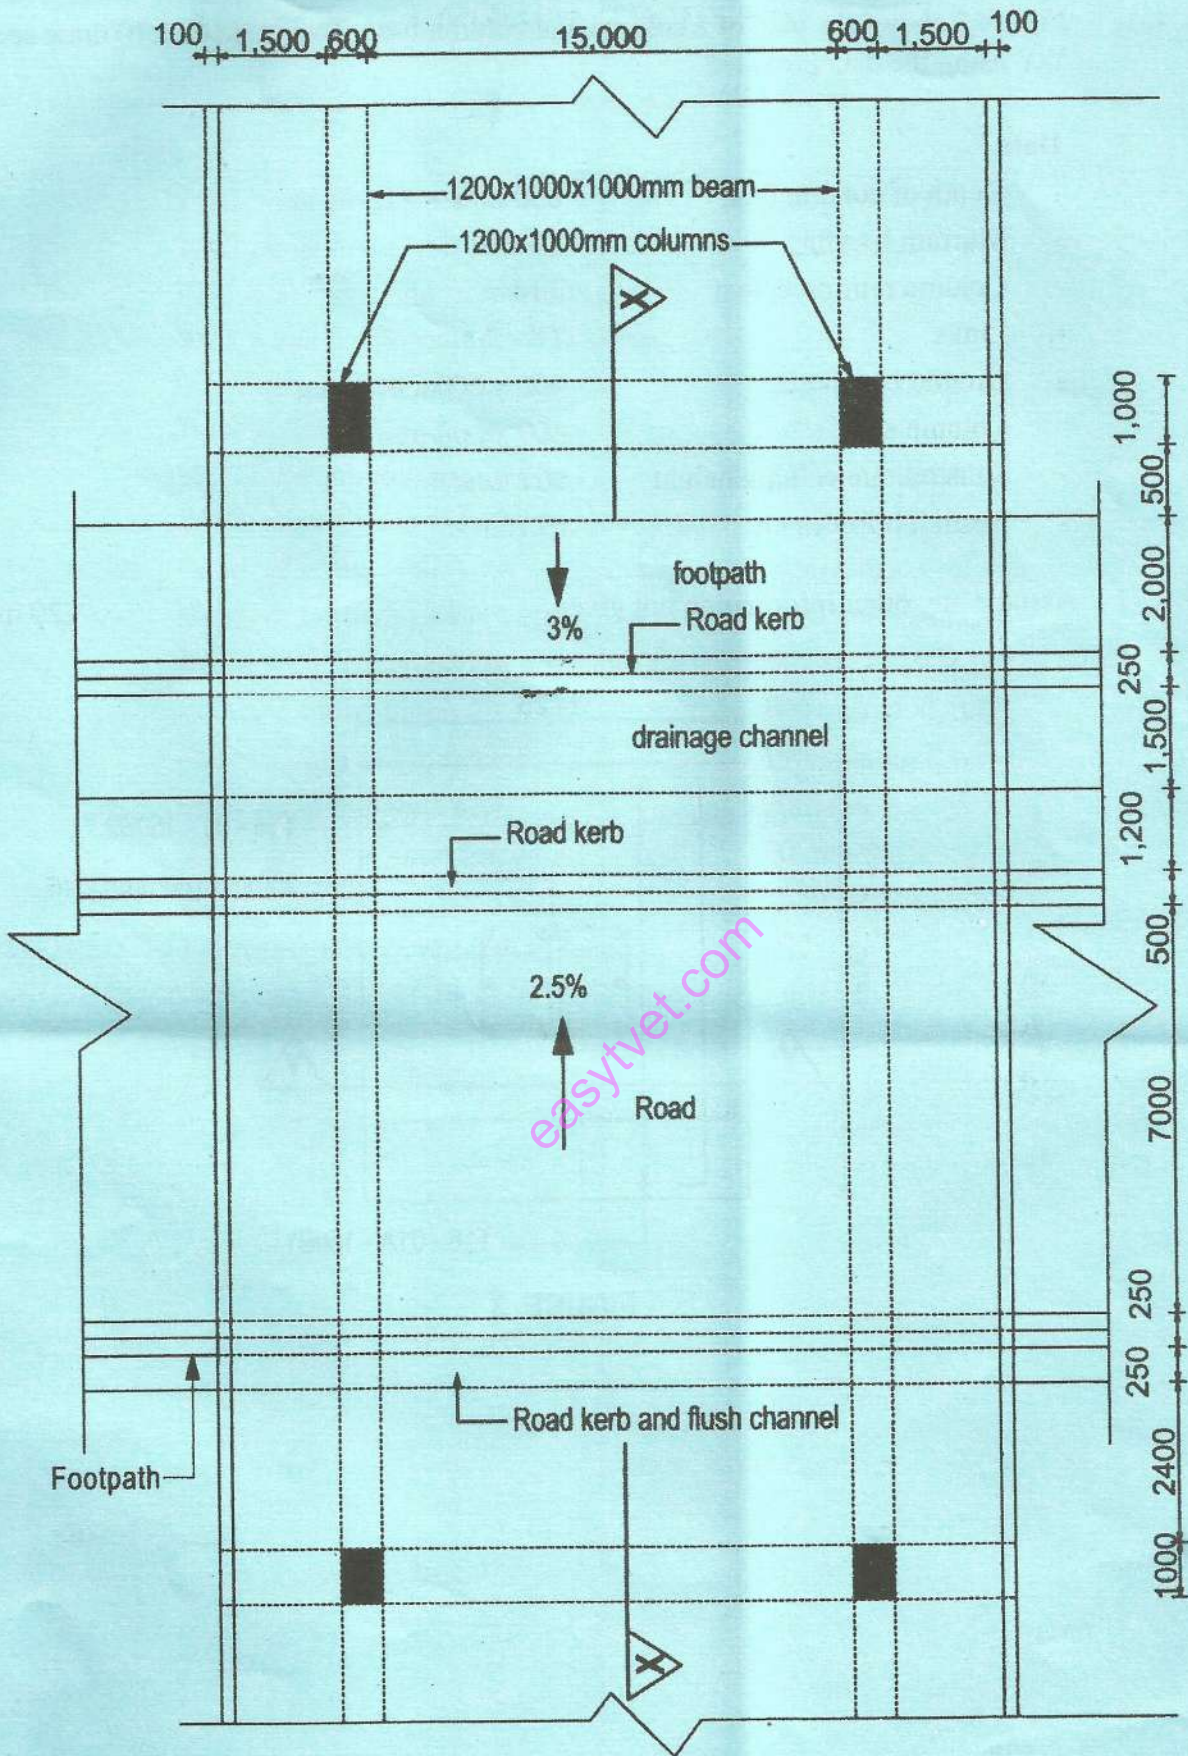

FIGURE 2
7. **Figure 2** shows the plan of a highway and a bridge.